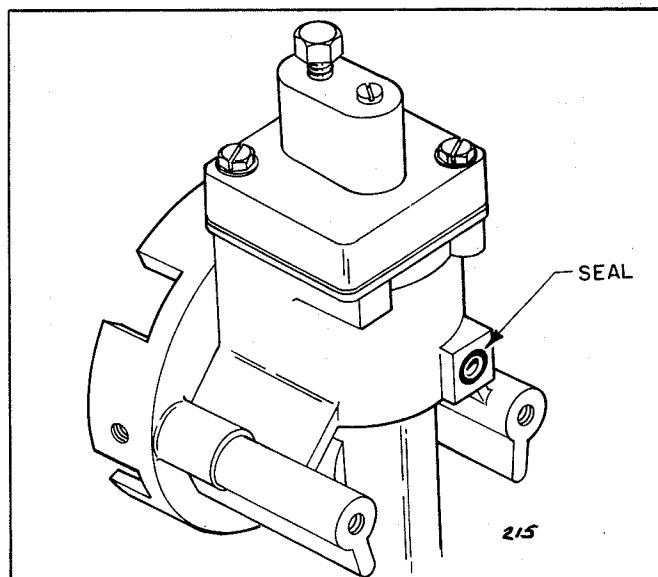

Figure 8. Burner Seal Installation
a. Be sure the seal is in place in its recess in the rear of the burner head casting. (See Figure 8.)